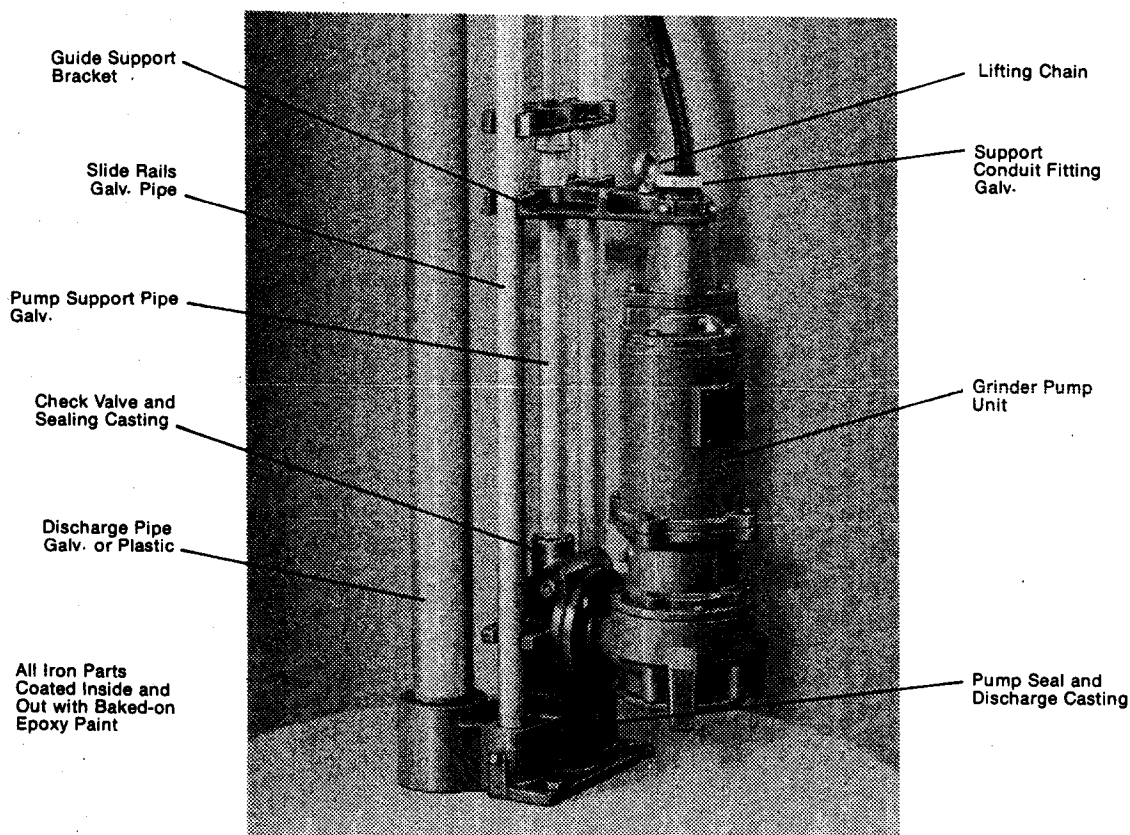

FIG. 3
**INSTALLING PUMP IN SUMP** - These pumps are usually installed in concrete or fiberglass basins with the lift-out rail system. Fig. 3 shows pump mounted on the rail system. Instructions for installing rail system is furnished with rail package.